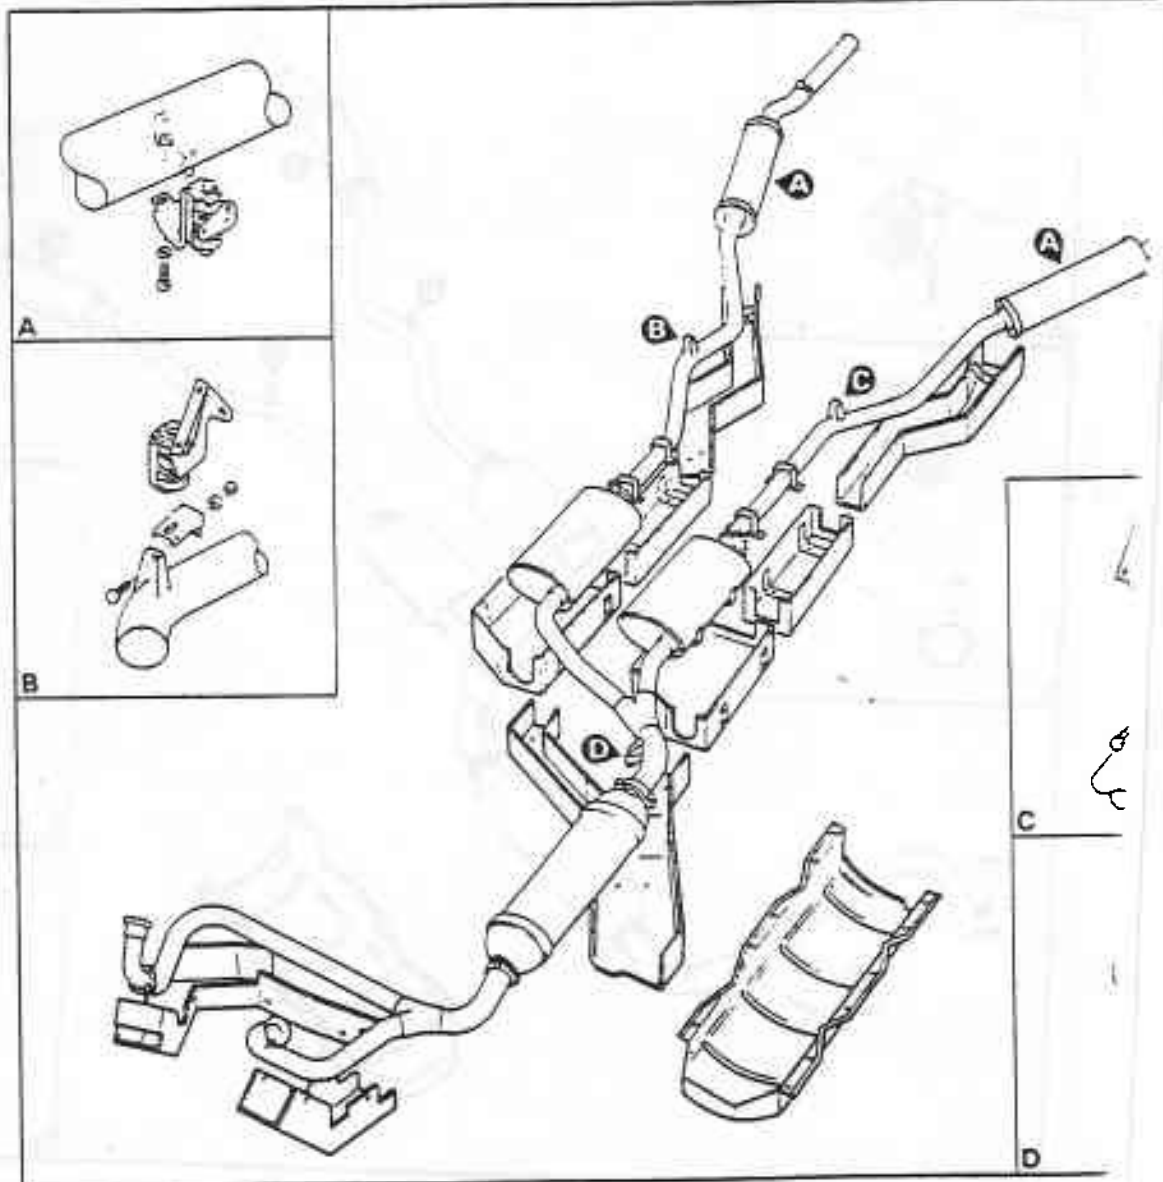

Fig. Q4-1 Exhaust system and grass-fire shields Silver Spirit, Silver Spur, Mulsanne (ex Corniche) *(cars conforming to a Japanese specification)*
Cars produced to the Japanese specification grass-fire shields fitted beneath the major exhaust system as shown in figure Q4-1.
5. Refer to figure Q4-1 for details of cars produced to the Japanese specification.